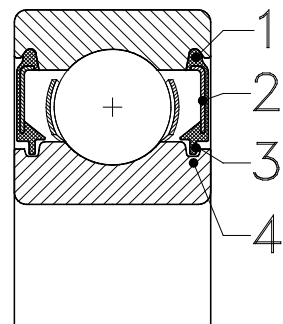

Fig. 4.4
This so-called **LFS-seal** (**LFS** stands for **Low Friction Seal**, see fig. 4.4) features two sealing lips, a radial one and another in axial direction (3). The radial seal lip fits into a groove turned in the inner ring (4) and thus forms a non-contacting seal.